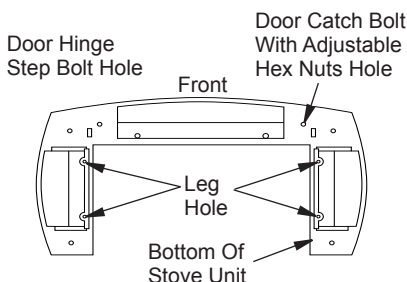

Figure 9 - Locating Threaded Holes for Legs and Door Attachment
9. Fasten each leg to stove with four (4) M8 x 1.25 - 20 mm bolts. Use a flat washer and lock washer with each bolt. Tighten bolts into threaded holes on stove body (see Figures 9 and 10). Use an adjustable wrench or a 12 mm socket.
10. Attach stove door by inserting step bolt through door hinge pivot hole and into threaded hole in stove body (see Figures 9 and 11). Use an adjustable wrench or a 12 mm socket to fasten step bolt. Tighten step bolt until snug. Make sure door moves freely.
11. Install door catch bolt (M8 x 1.25-55 mm with two M8 hex nuts) into threaded hole on stove body (see Figure 9). Use an adjustable wrench or a 12 mm socket. The catch bolt has two hex nuts attached to it (see Figure 12). The top nut is a bolt stop and the bottom nut is for door leveling adjustment.